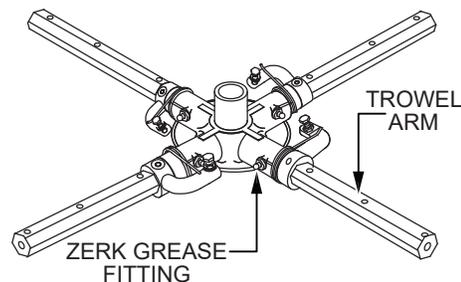

**Figure 47. Trowel Blade Removal**
1. Remove the trowel blades from the trowel arm by removing the three hex head bolts (Figure 47) from the trowel arm. Set the blades aside.